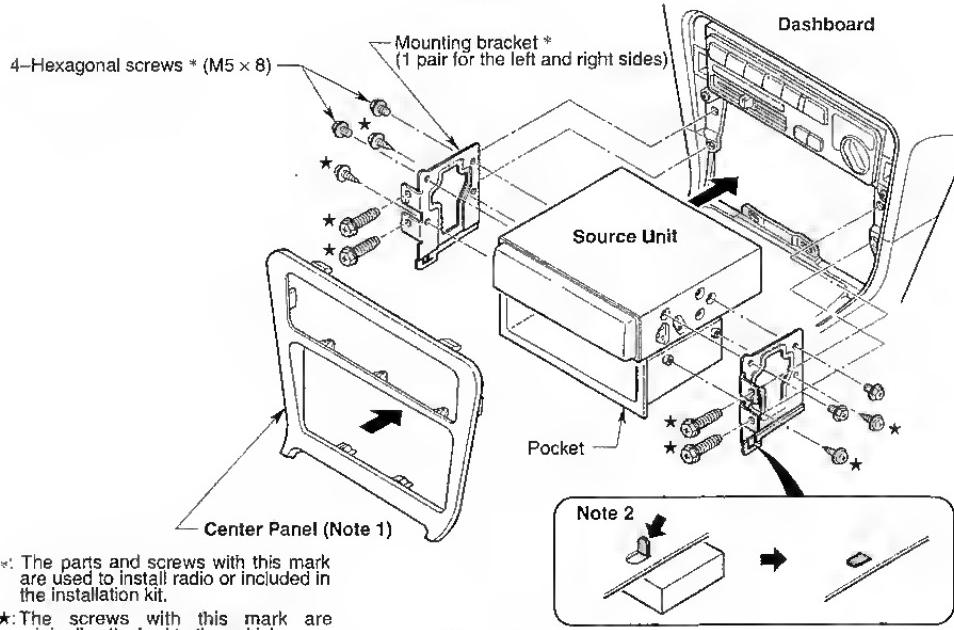

Figure 8
If the vehicle is equipped with a factory-installed radio, install the source unit with the parts and screws marked (*) (Figure 8).
2. Secure the mounting brackets to the chassis as shown in Figure 8. Holes are pre-tapped for TOYOTA and NISSAN vehicles; modification, such as drilling new holes, of the mounting brackets may be required for other models.